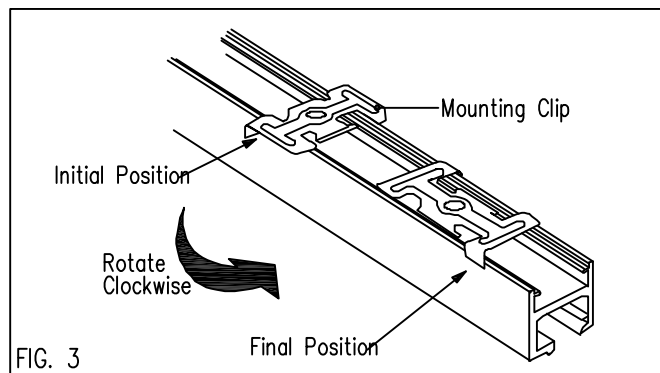

FIG. 3
6. Mount track to ceiling by rotating Mounting Clips into track (see Fig. 3).
4. Rotate Mounting Clips into track to secure track to ceiling (see Fig. 3).